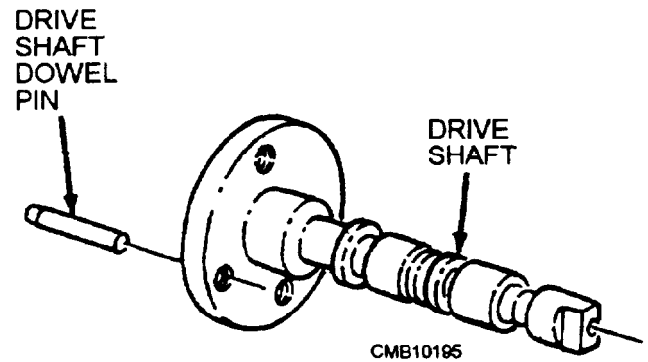

Figure 5-12.—Drive shaft.
**DRIVE SHAFT** (fig. 5-12)—The drive shaft is the driving member that rotates inside a pilot tube pressed into the housing. The rear of the shaft engages the front of the distributor rotor and turns the rotor shaft. Two lip type seals prevent the entrance of engine oil into the pump and retain fuel used for pump lubrication.